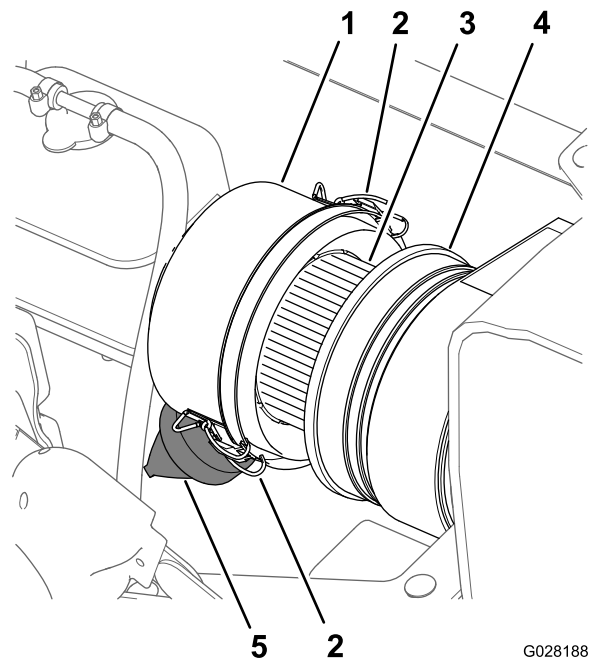

Figure 65
3. Wipe clean the dust cap and air-cleaner body (Figure 65).
4. Check the air-cleaner body for damage that could cause an air leak (Figure 65).
5. Squeeze the dust valve to clear it of dirt, dust, and debris (Figure 65).
7. Check the air-filter element for excessive accumulation of dust, dirt, and debris (Figure 65).
8. Install the dust cap onto the air-cleaner body and secure the cap with the 2 latches (Figure 65).
2. Clean the dust cap and air-cleaner body (Figure 65).
6. Clean the inside of the dust cap, air-cleaner body, and dust valve with a damp rag (Figure 65 and Figure 66).